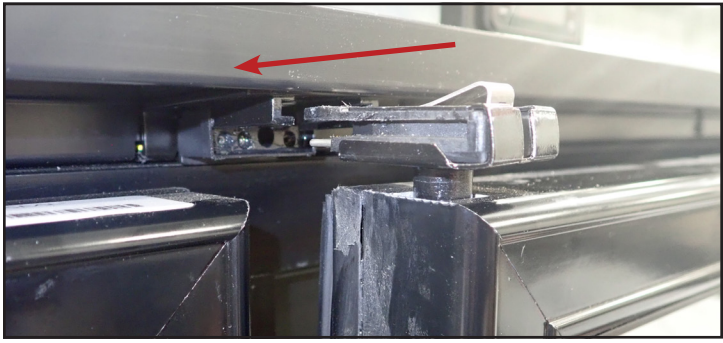

Fig. 8. Align the hinge pin.
3. Align the hinge pin (see fig. 8). Then, push the door's top towards the appliance until the hinge pin clicks into place.